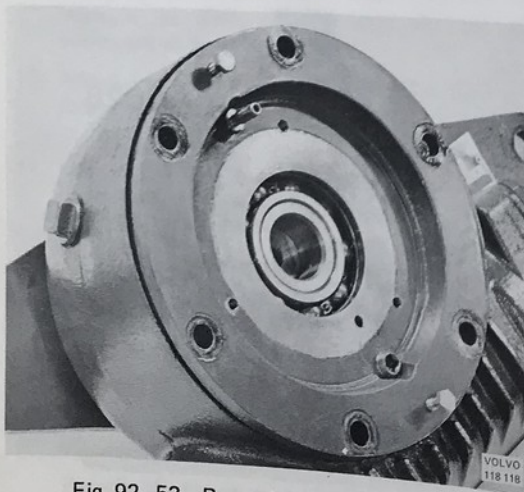

Fig. 92-53. Removing the cover
14. Remove the bolts securing the cover to the worm gear housing. Mark up the location of the cover and pull it off with two bolts (M6 with 40 mm = 1.5 in. thread length), see Fig. 92-53.